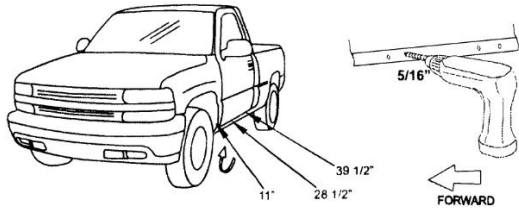

FIGURE 1
2. Drill M8 holes in pinch weld as shown. **(See Fig 1)**